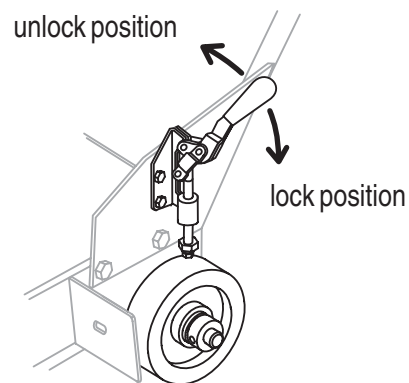

Figure 22. Wheel Clamp
9. Push the Wheel Clamp Levers downward to apply braking pressure to the wheels (Figure 22).